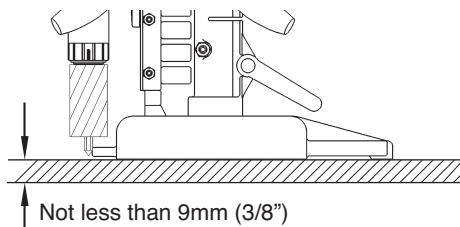

Fig. 2
- The work piece must be at least 9 mm (3/8") thick. If a work piece is too thin, the magnetic power of your machine will decrease. This will cause the machine to move during operation. This could result in an accident. (Fig.2)